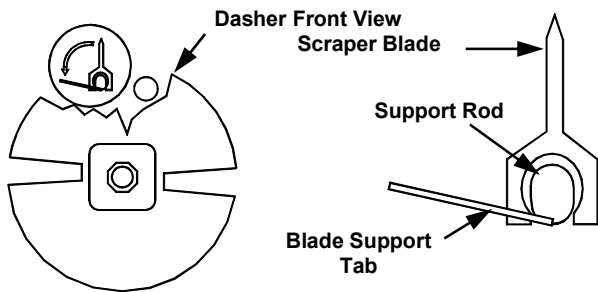
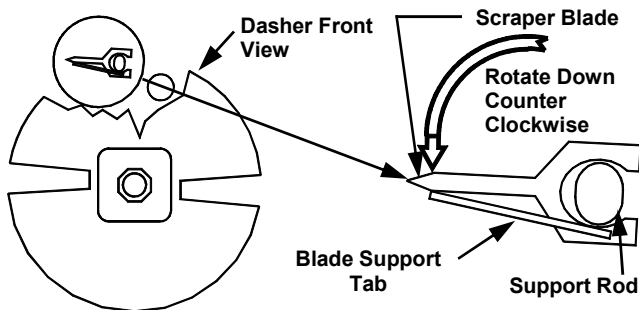

Fig. 16
Fig. 17
- d. Install the scraper blades onto the dasher assembly by holding the blades perpendicular to the tabs (Fig. 16) and then snapping them over the flat area of the support rod. Then rotate the blades downward in a counterclockwise direction as viewed from the front of the dasher (Fig. 17). **BE CERTAIN THAT THE SCRAPER BLADES REST UPON THE DASHER TABS.**